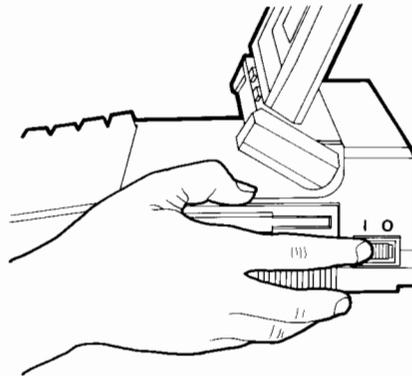

Figure 1-5. Turning On the Power
2. Turn on the power to the computer by sliding the switch on the right side of the computer to the “1” setting, as shown in Figure 1-5.